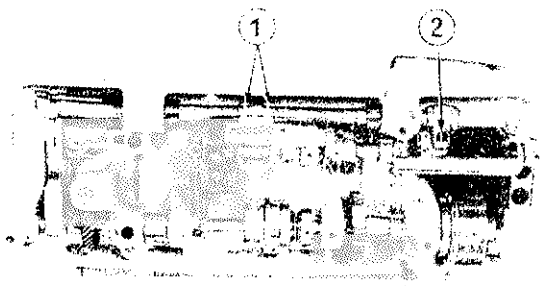
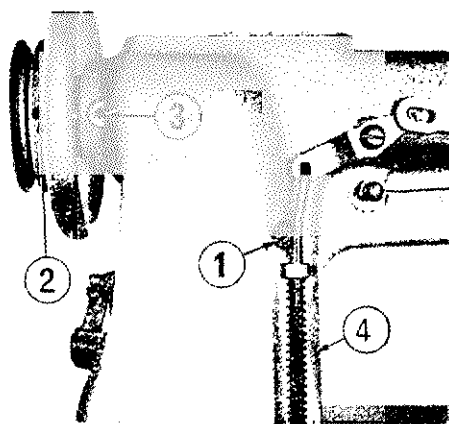
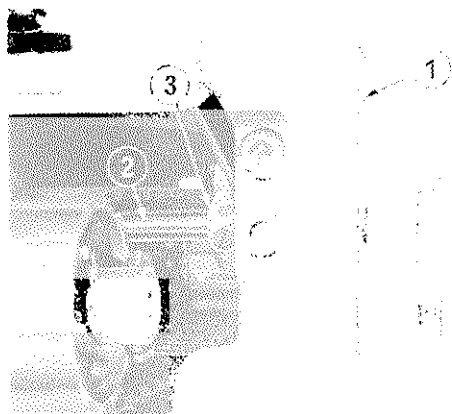

Fig. 18
Fig. 24
Fig. 25
When the stitch length is set at "0" and if the relative position of walking bar with the presser bar is not right, loosen the 2 screws of the feed rock shaft crank (Fig. 18 133), match the clearance between the presser bar and the walking bar at 8.54 mm ( $21/64''$ ) and then tighten the screws.
Also, to set the correct relative position of the needle bar frame with that of the feed dog, first, set the stitch length at "0", then loosen the screw (Fig. 18 (2)) of the driving rod crank and loosen the screw of the needle bar shaft rear crank from the hole (Fig. 25 (1)) in the back of the arm. And further, when the needle comes near the center or front half of the hole of the feed dog, and holding this position make the driving rod crank parallel to the surface of the bed and tighten the 2 screws.
Remove the face plate and the needle bar frame, insert a screw driver into the hole (Fig. 24 1 ). loosen the screw of the needle bar frame rock shaft crank and take out the needle bar frame rock shaft.
Loosen the 2 set screws of the belt groove of the hand wheel (Fig. 24 2 ) and pull out the hand wheel. Then, loosen the main shaft rear bushing set screw (Fig. 24 3 ), remove the top cover, loosen the 2 screws of the main shaft rear bushing at the right side of the upper sprocket wheel and draw out the main shaft rear bushing from the frame.
Then, remove the reverse feed control lever (Fig. 25 1 ). To do this, remove the tension spring which is hooked to the top cover, tilt the machine and by loosening the 2 screws (Fig. 25 3 ) of the reverse feed control lever shaft, remove the screw (Fig. 24 4 ) of the reverse feed control lever shaft. After that, pull out the lever shaft together with the reverse feed control lever.